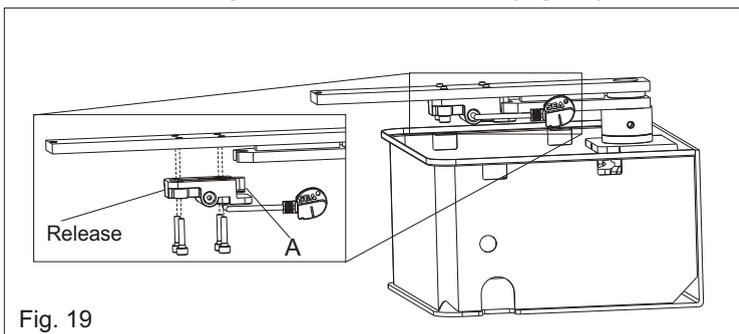

Fig. 19
**6.1.** Grease the hinge (A) and mount the release system under the leaf device using the 4 furnished screws (Fig. 19)